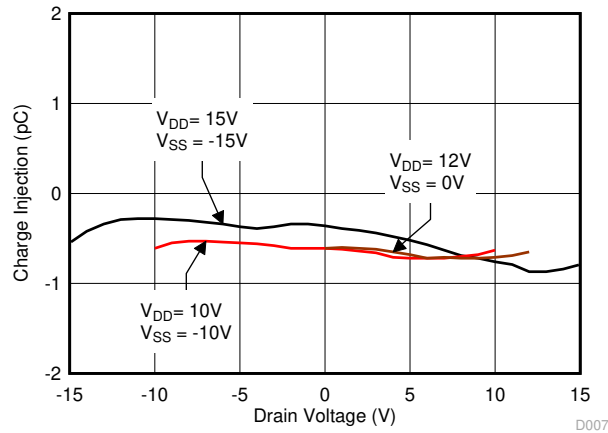

图 7-15. Charge Injection vs Drain Voltage
The TMUX6136 utilizes special charge-injection cancellation circuitry that reduces the drain (D)-to-source (S_x) charge injection to as low as -0.4 pC at V_S = 0 V, as shown in 图 7-15.